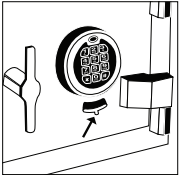

Figure 1
1. Remove the battery cover under the keypad housing (Figure 1).